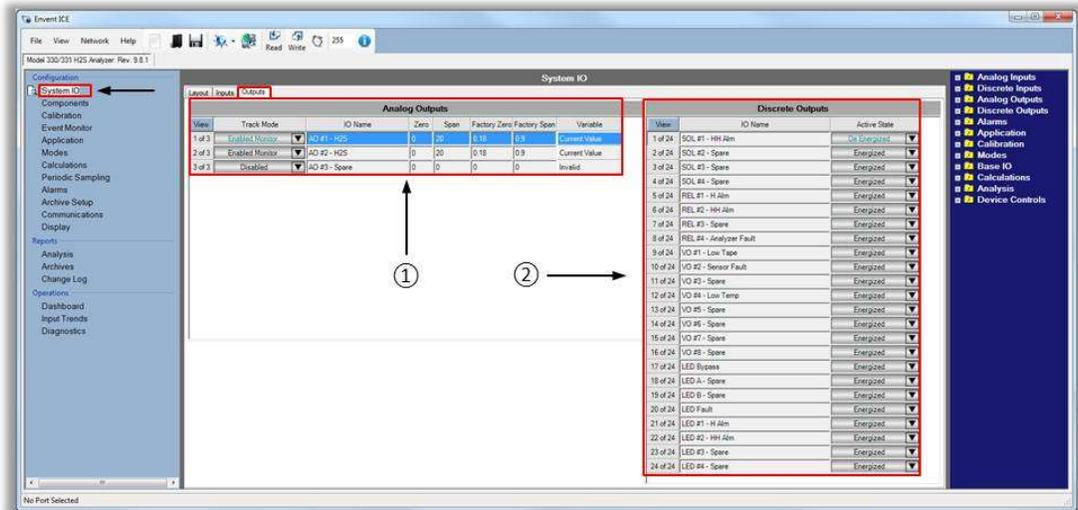

Figure 3. ICE Software: Configuration: System IO Tab: Outputs Tab
In this section of the ICE software, analog and discrete outputs are configured. To access the analog and discrete outputs, go to System IO>Output Tab. Refer to Figure 3.
This option allows activating or deactivating the analog output. Refer to Figure 3 area ①
IO Names are names assigned to the analog outputs. The name is up to the user's discretion. Figure 3 area ① shows the analog output names as "H2S" as default for standard configurations.
These columns refer to the range being measured. Since the variables used for the analog outputs are the analyzer H2S readings, the zero and span values are 0 to 20 ppm of H2S (for standard configurations). Refer to Refer to Figure 3 area ①
In this section of the ICE software, discrete outputs are named and their status states are set-up. Refer to Refer to Figure 3 area ②.
IO Names are names assigned to the discrete outputs. The name is up to the user's discretion. Names are set-up according to the analyzer standard factory configuration file. These names are based on what alarm variable they are used for. These discrete output names will appear in the Output Controls column in the Alarm tab section. Refer to Figure 3 area ②.
Active state is the condition the discrete output will have when in alarm. If selected as "De-energized", the discrete output will be fail-safe. Refer to Figure 3 area ②.